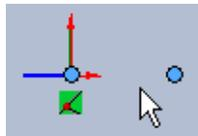

Figure 18 Click the origin and vertex
- 14 Click two points in the graphics area: the origin and the vertex. See Figure 18.